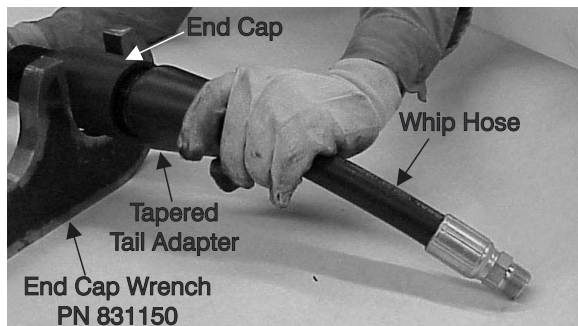

Figure 9-45. Slide Tail Adapter to End Cap
4. With the threaded end toward the End Cap (8), slide the Tapered Tail Adapter (13) over the Whip Hose (10) to the internal threads of the End Cap as shown in Figure 9-45.